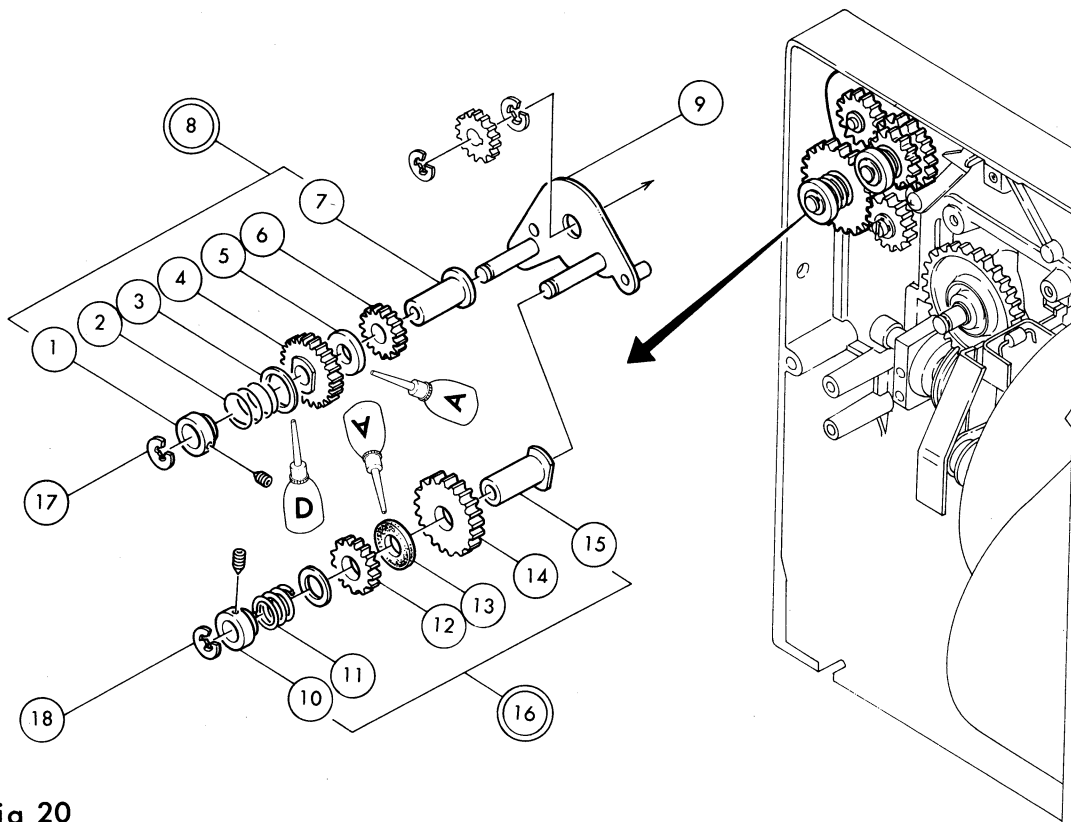

Fig 20
A. Disassembly Refer to Fig.20.
1. Remove (17) and detach ((8)) from (9).
2. Disassemble, referring Fig.20.
1. Remove (18), and detach (16) from (9).
2. Refer to Fig.20 for disassembling the rest.